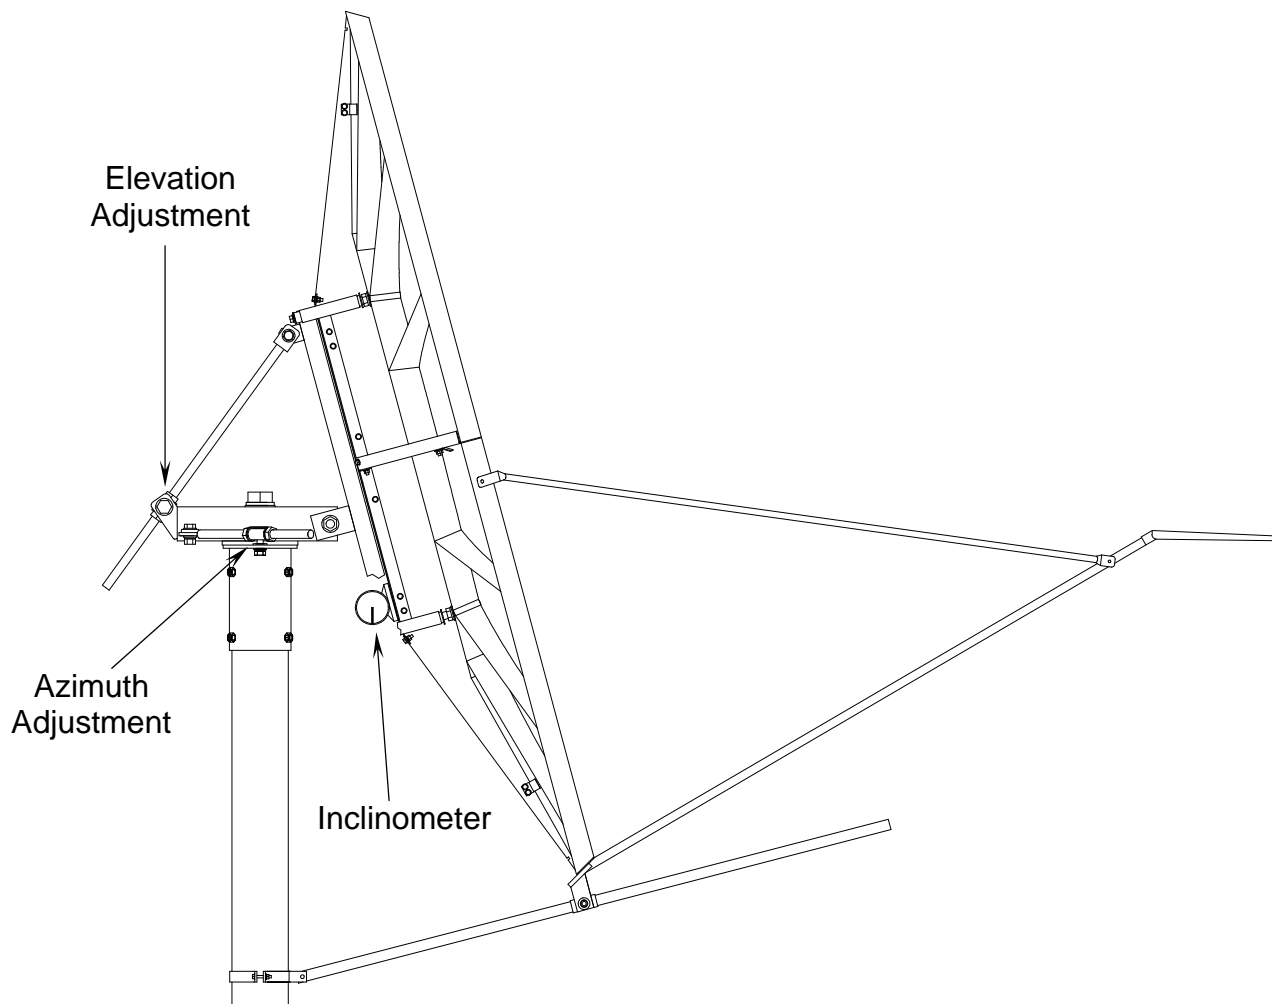

Figure 3.
Step 1:      Place an inclinometer on the major axis template to read the initial rough elevation as shown in figure 3. **Note that the look angle of the reflector is the reading on the inclinometer plus 17.35°.**